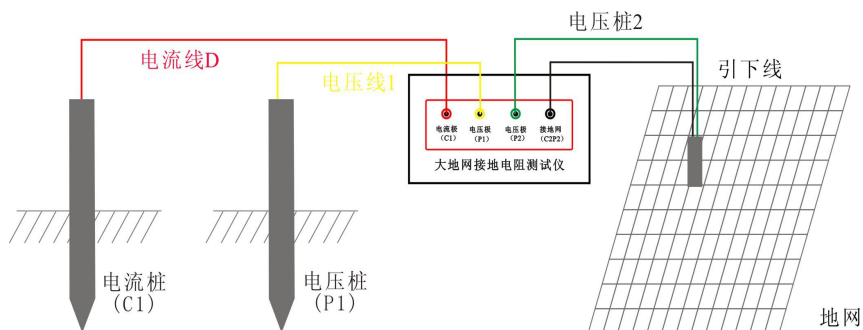

Figure 4 Wiring diagram for four-pole measurement
3. The current test line and the voltage test line are discharged in parallel after connecting one end to the instrument according to the specified length. The other end is connected to two ground piles (as shown in Figure 3 or Figure 4).